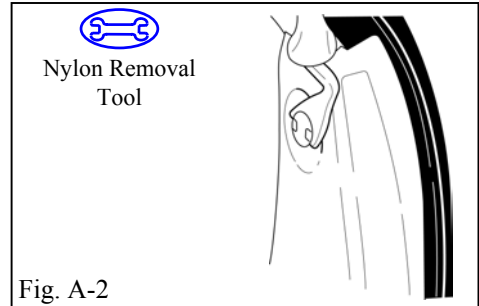

Fig. A-2
- ➔ 2. Remove and discard upper trim plug on the passenger side of the vehicle, using Nylon Panel Removal Tool, as shown. (Fig. A-2)